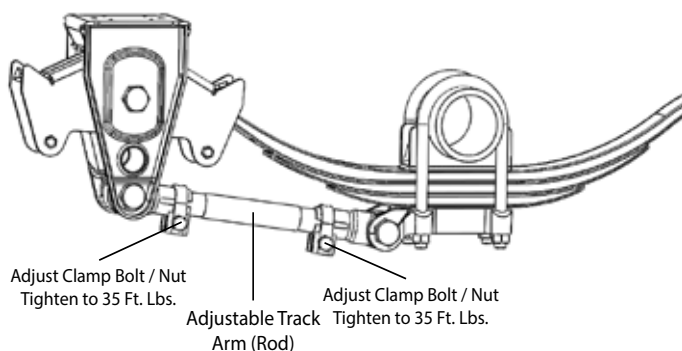

Figure 1
Release the clamps at each end of the adjusting screw (see Figure 1). Align front axle with the king pin and adjust each axle thereafter parallel to the front axle. Be sure to secure the clamps on the adjustable track arm (rod) after alignment (see Figure 1).
Alignment Procedure (Figure 1)
1. Loosen the adjustable track rod clamp bolts (Figure 1) and turn the center rod to adjust as necessary per above.
2. After adjusting, tighten the adjustable track rod clamp nuts to proper torque (Figure 1) and recheck measurements.